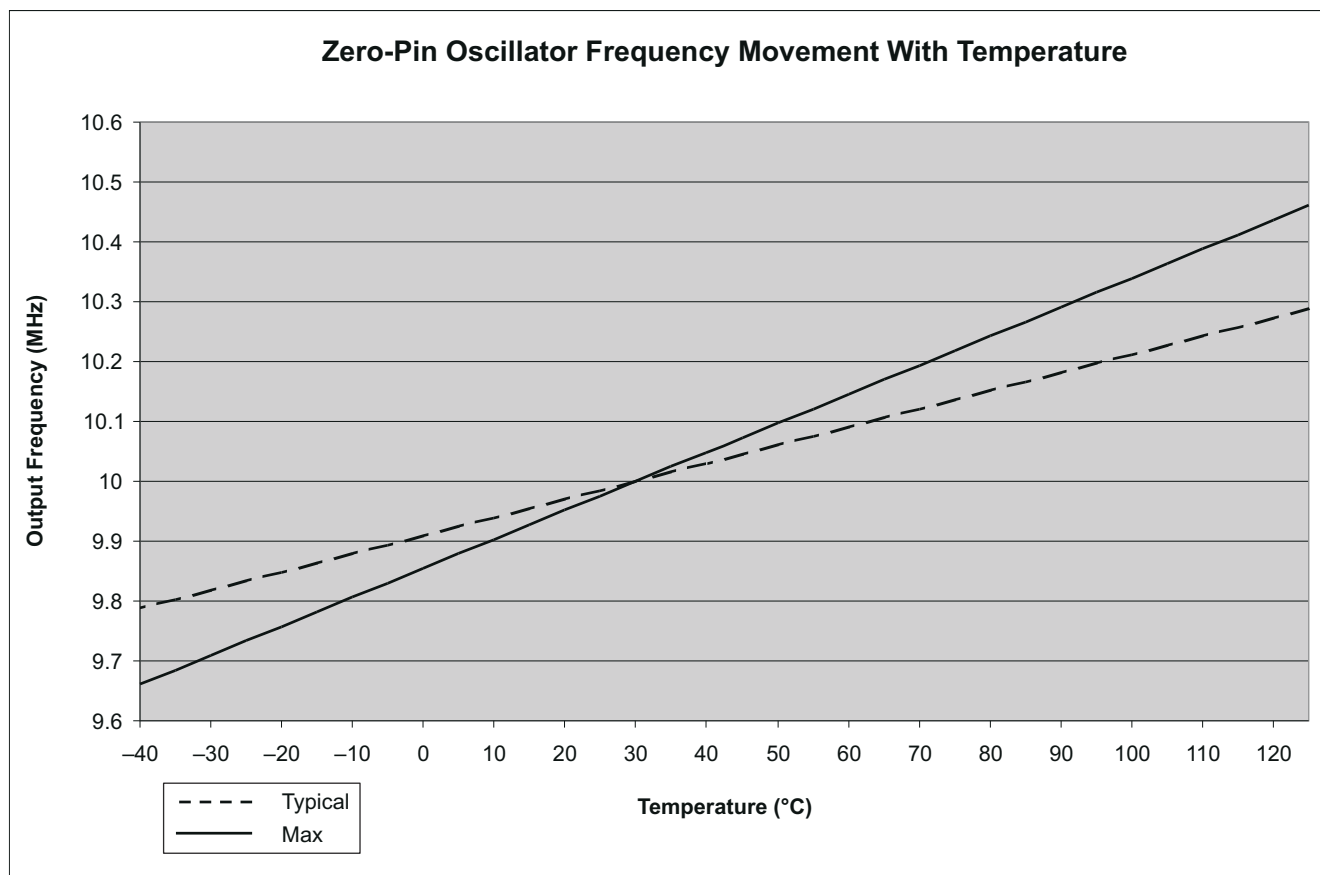

Figure 8-8. Zero-Pin Oscillator Frequency Movement With Temperature
- (1) Oscillator frequency will vary over temperature, see Figure 8-8. To compensate for oscillator temperature drift, see the Oscillator Compensation Guide and C2000Ware.
- (2) Frequency range ensured only when VREG is enabled, $\overline{\text{VREGENZ}} = V_{\text{SS}}$.
- (3) Output frequency of the internal oscillators follows the direction of both the temperature gradient and voltage (V_{DD}) gradient. For example: